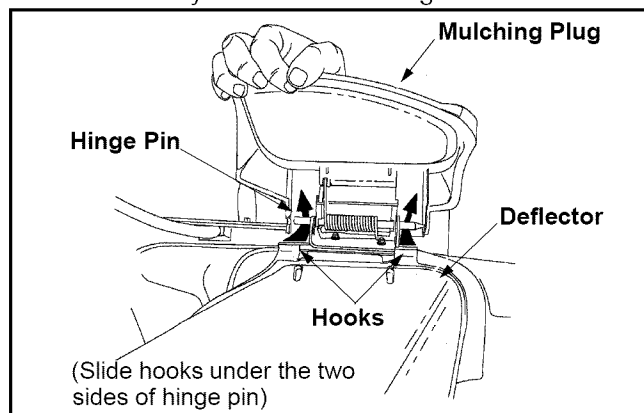

Figure 7
- On the side of the mower, lift the mulching plug. See Figure 7.